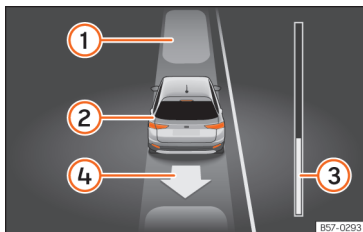

Fig. 253 On the instrument panel display: driving off from perpendicular parking.
Key to the **Fig. 253**:
The progress bar » Fig. 253 ③ indicates the distance to cover » page 281.